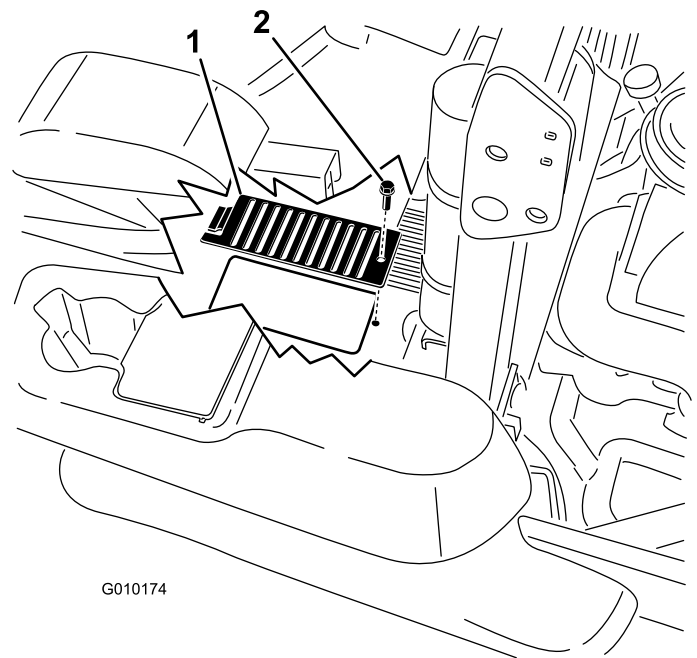

Figure 85
6. Remove the bolt and cover over each dipstick (Figure 85).